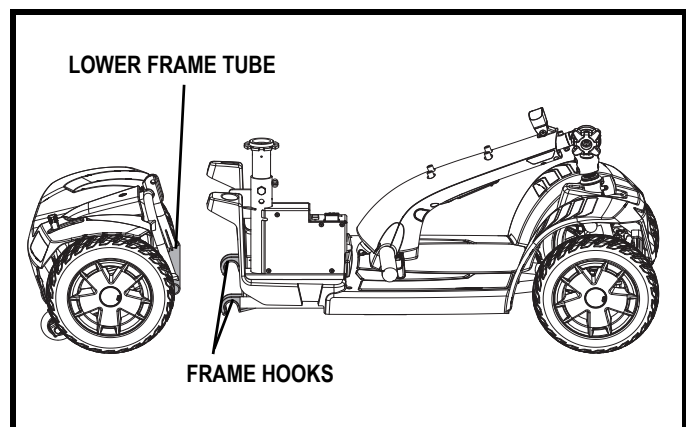

Figure 25. Frame Separation
3. Lift up on the seat post and pivot the rear section backwards until the frame hooks are no longer resting on the lower frame tube. See **figure 25**.
4. Slowly separate the two sections of the scooter. See **figure 25**.
1. Position the front and rear sections of your scooter as shown in **figure 25**.
2. Lift the front section as you align the frame hooks of the front section with the lower frame tube of the rear section. See **figure 25**.